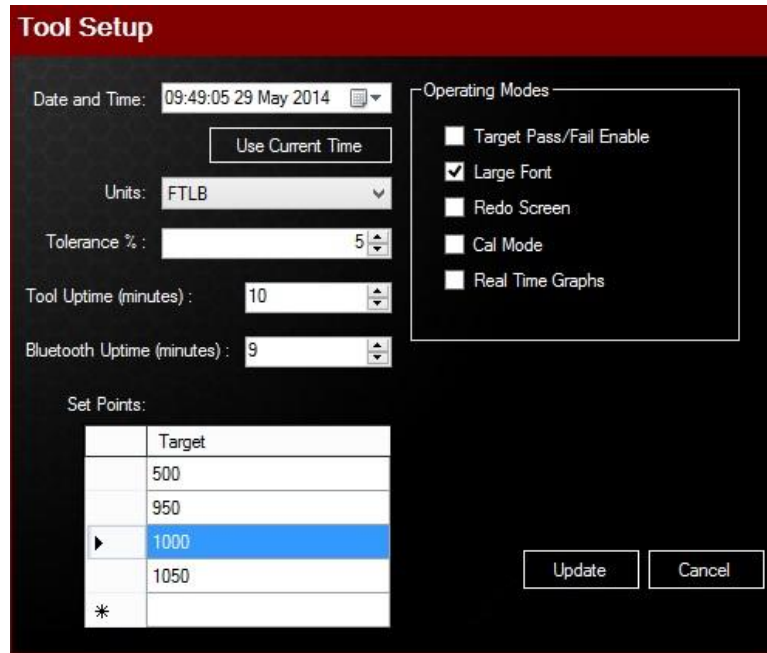

Figure 6.2-2: Tool Setup Menu
- The Tool Setup Menu will be displayed (Figure 6.2-2).